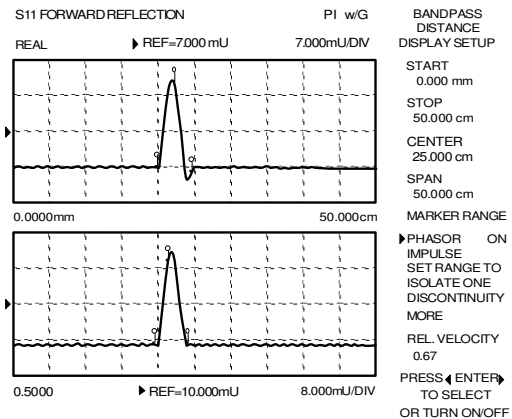

Figure 10-23. Response with PHASOR IMPULSE ON Selected
Step 4. Select PHASOR IMPULSE ON in the Bandpass menu. The real and imaginary responses of the Phasor Impulse Response are displayed. Based on the display, the device has a series inductance as well as resistance >50 ohms (Figure 10-23).